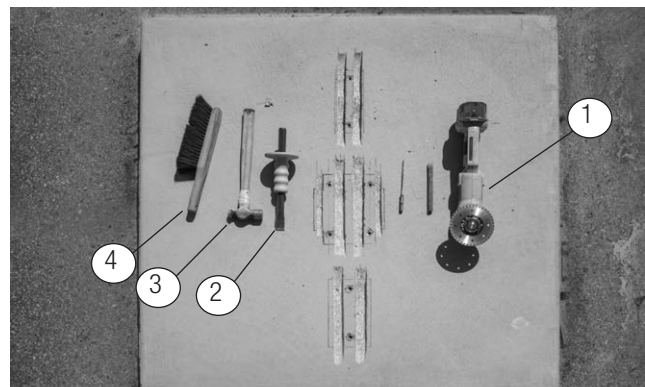

Figure: 4-8
10. Cut the concrete perimeter first and then make small cross cuts. To minimize chisel use, use a diamond concrete cutting wheel. See Figure: 4-8.
11. Use diamond concrete cutting wheel and chisel to remove large pieces of concrete after cutting. See Figure: 4-8.